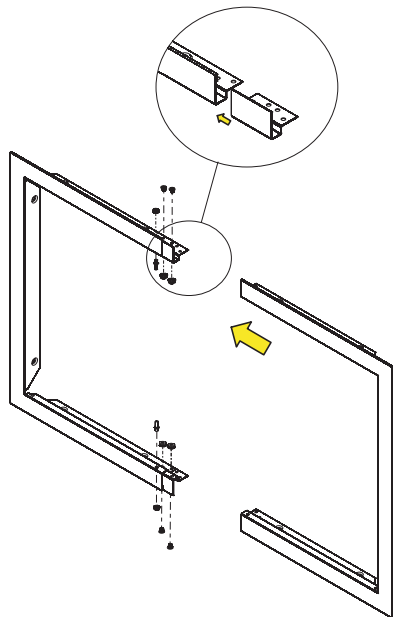

Figure 6
2. Use the door brackets included in the hardware packages to combine the frames. Use the screws from the single door to attach the bracket, and place the door pin in position. See Figure 6